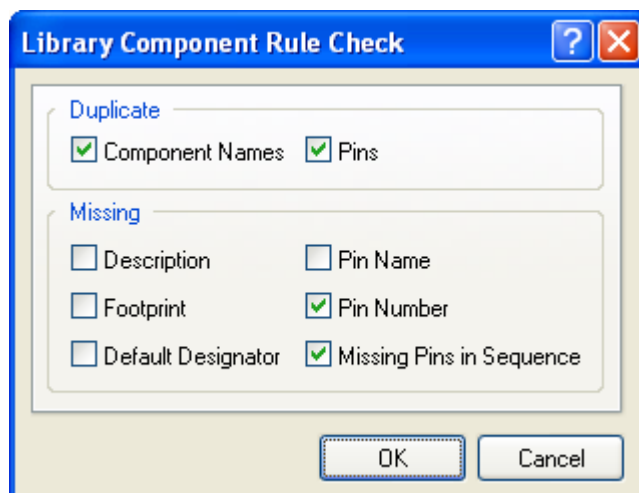

Figure 20. Library Component Rule Check dialog
- The **Reports » Component Rule Check** command opens the *Library Component Rule Check* dialog (Figure 20). These allow you to test for: